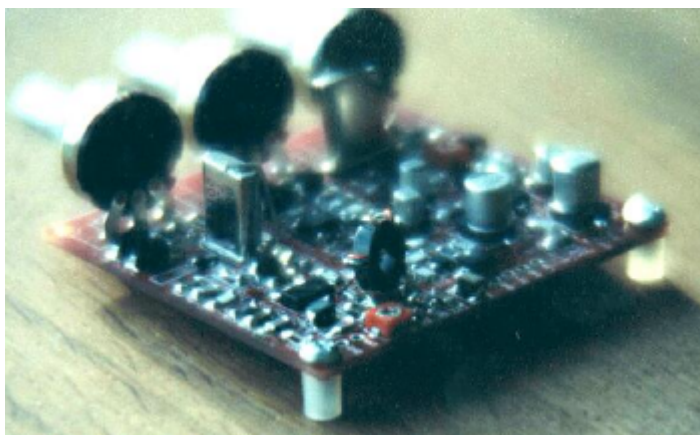

Figure 12: Nylon standoffs in place on rear edge of SMK-1 Transceiver board
3) Using small sheet metal screw (supplied), attach a nylon spacer to the bottom side of the board at each of the two rear holes on the SMK-1 board. The screw will be inserted from the top side and protrude down and into the nylon spacer on the bottom of the board. You'll be cutting threads into the spacer, and it will be a tight turn of the screwdriver. Hold the spacer tightly with your pliers and turn the each screw down into its respective spacer until the board is tightly contained between the screw and spacer on each end of the board's rear edge. These two spacers will be the "free-floating" stand-offs for the board, ensuring that the board doesn't flop around or short out inside the enclosure. See figure 12 below showing the nylon spacers/standoffs in place.